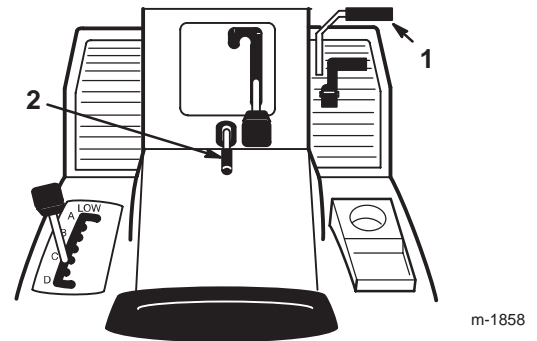

Figure 3
1. Push the brake pedal (Fig. 3) down and hold it.
2. Lift the parking brake lever (Fig. 3) up and gradually take your foot off of the brake pedal.
1. Push down on the brake pedal (Fig. 3).